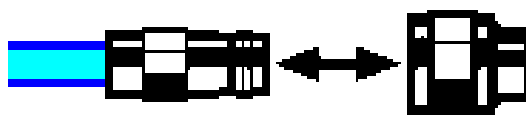

Fig. 2.4 Alignment of Axes of Interconnected Connectors
Step 1. As shown in Fig. 2.4, align the axes of two connectors to be interconnected, and ensure that the pin of the male connector can concentrically slide into the jack of the female connector;